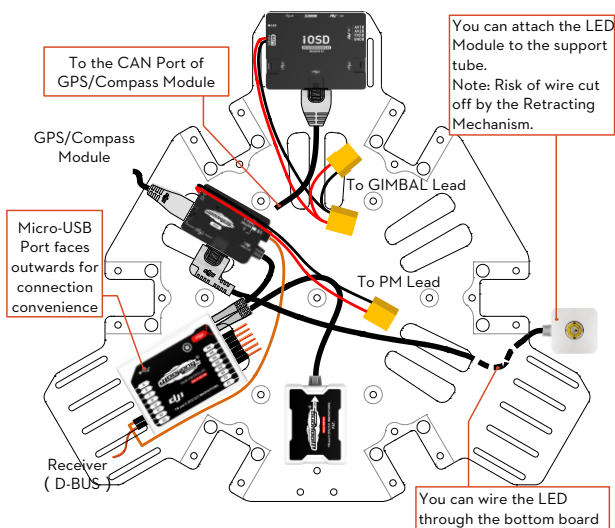

Fig.2 Attach the Autopilot System
2. (Fig.2) Attach the IMU module into IMU position in the center frame. Ensure the IMU casing is out of touching the top board edge, as vibration can cause IMU mal-function.
3. (Fig.2) Please attach DJI Autopilot System parts onto the bottom board (not including GPS modules).
4. (Fig.2) Connect the Autopilot System and receiver. Please refer to DJI WKM User Manual for details.